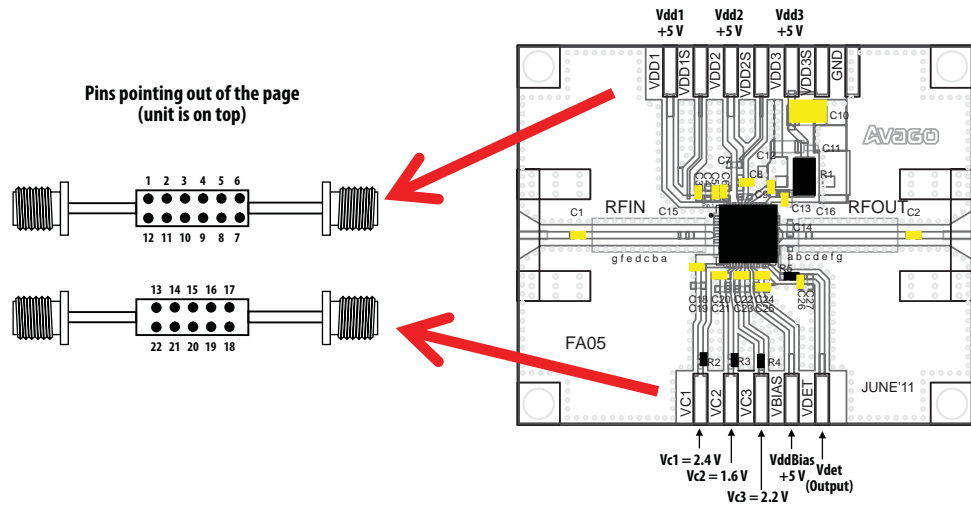

Figure 30. Demonstration board application circuit for MGA-43628 module
3. Idq1 = 60.0 mA, Idq2 = 110 mA, Idq3 = 270.0 mA, I_VddBias = 14.0 mA. Idq1/2/3 are adjusted by voltages to CMOS-compatible control pins Vc1/2/3 respectively. These typical bias currents were obtained with Vc1/2/3 voltages in Figure 30 above. Adjustment of these currents enable optimum bias conditions to be achieved for best linearity and efficiency for a given modulation type